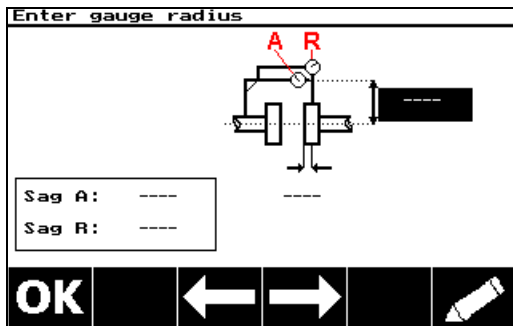

Figure 14
- 7) Key in the travel radius of the Face (or Axial) Indicator (A) and confirm with **ENTER**. (See Figure 14)